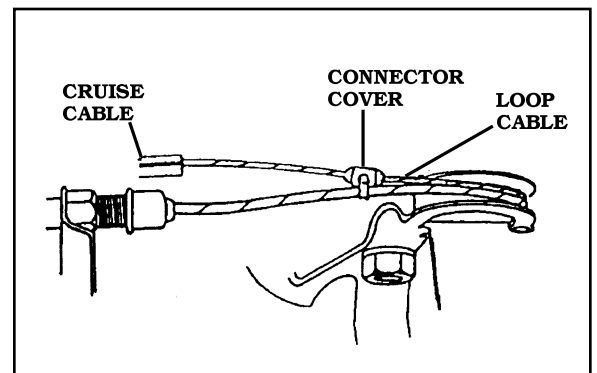

FIGURE 10
5. TO SECURE THE **LOOP CABLE** TO THE THROTTLE CABLE, PUNCH A SMALL HOLE IN THE **CONNECTOR COVER** AND SLIDE THE **TIE STRAP (102MM)** THROUGH THE HOLE AND SECURE TO THE THROTTLE CABLE. **FIGURE 10**